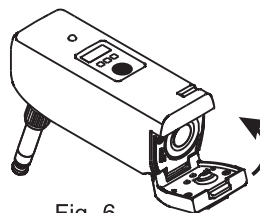

Fig. 6
(C) Carefully close the battery cover until the hinge is properly locked and secured, Fig. 6.
- (D) Keep the transmitter power off to preserve battery power after each use. Remove the battery when it will not be used for an extended period of time.
- (A) Insert MT-58 transmitter into the charger. Ascertain the charging contacts are aligned with correct polarity.